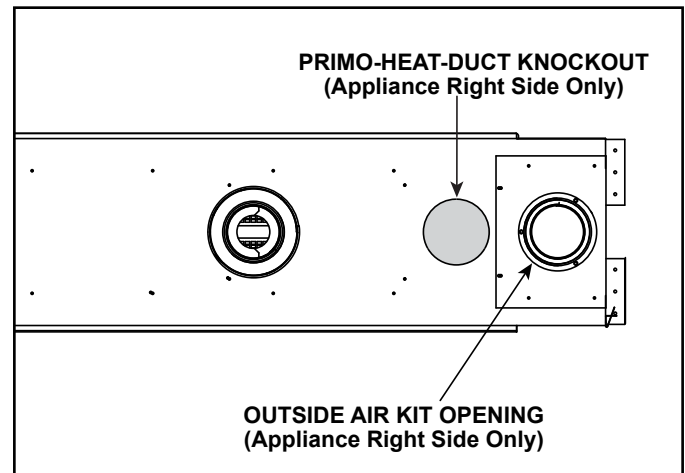

Figure 6.2 Heat Management Knockout Locations
1. Remove cover plate over Outside Air Kit opening on the appliance. See Figure 6.2 for opening location.
- Locate the knockout on the top right side of the appliance. See Figure 6.2. Remove the knockout from the appliance with a tin snips.